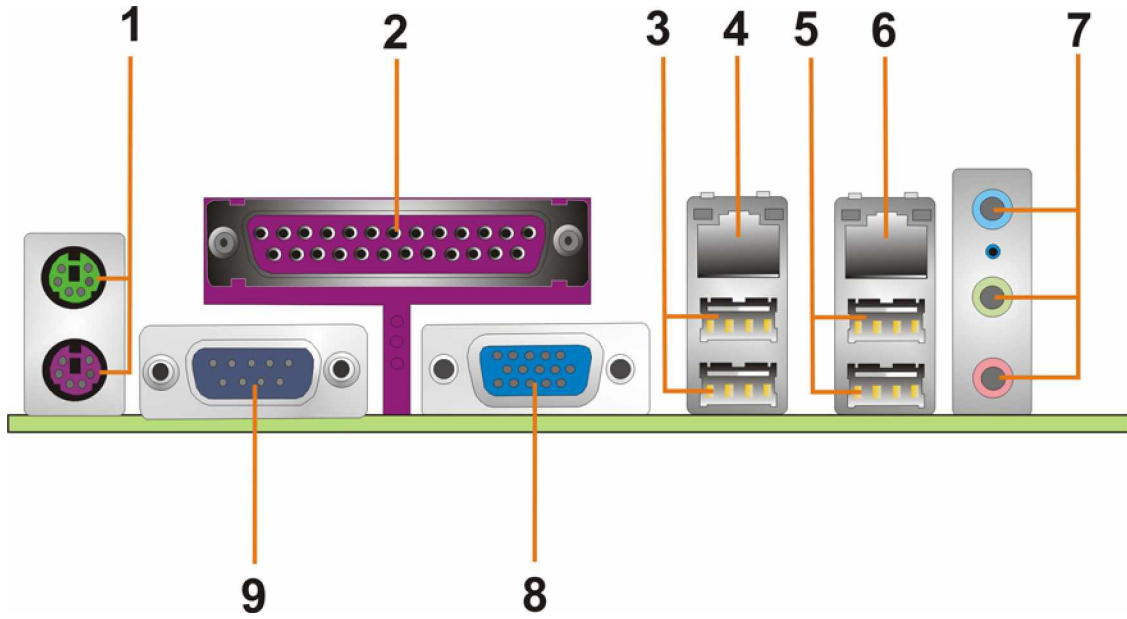

Figure 3-18: 2801250 CP Rear Panel
Figure 3-18 shows the 2801250 rear panel. The peripheral connectors on the back panel are connected to devices externally when the 2801250 is installed in a chassis.
- CN Location:** See Figure 3-18 (labeled number 1)
CN Location: See Figure 3-18 (labeled number 8)
CN Location: See Figure 3-18 (labeled number 9)
CN Location: See Figure 3-18 (labeled number 2)
CN Location: See Figure 3-18 (labeled number 4 and 6)
- CN Location:** See Figure 3-18 (LAN labeled number 3 and 5)